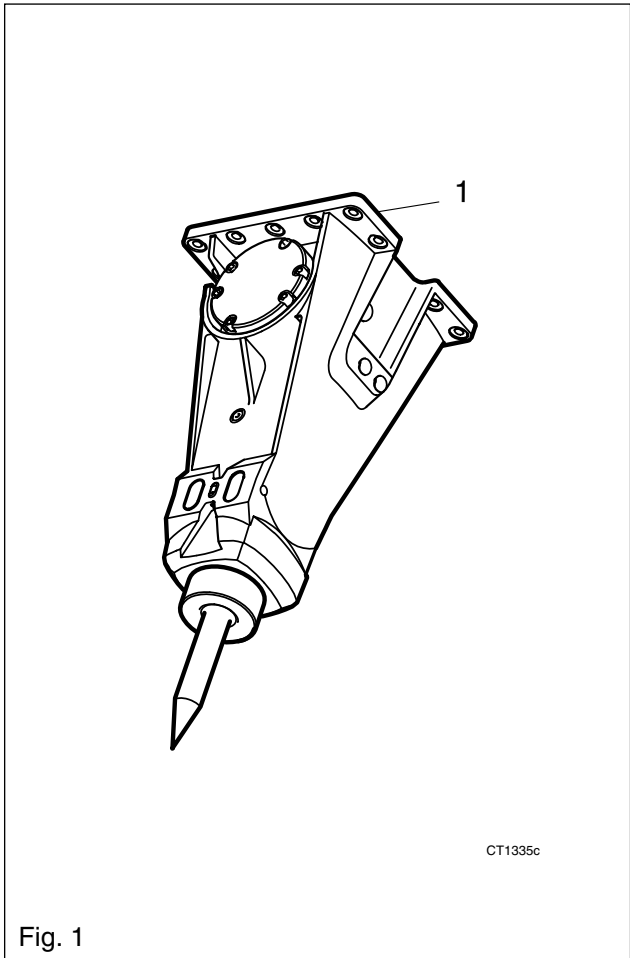

Fig. 1
- Fig. 1 shows the location of the hammer's CE-plate on which the serial no. is given. On SB hammers the serial no. is also stamped on the adapter plate surface.